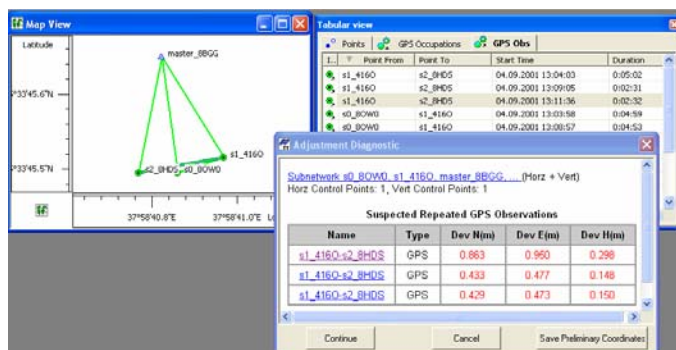

Figure 6-17. Selection of Repeated Observation in Map and Tabular View
- Click the hyperlink to access the data that caused the error. Edit the data and click **Restart** to continue the network adjustment (Figure 6-17 on page 6-18).